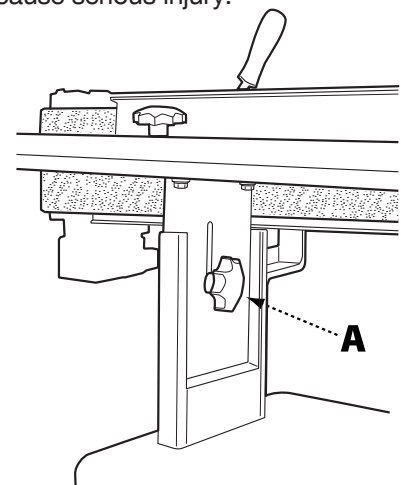

FIGURE 12
1. There are two height elevation lock knobs (A) one on either side of the table support, shown in Figure 12. Loosen both lock knobs just enough to allow the sanding table to move up and down.